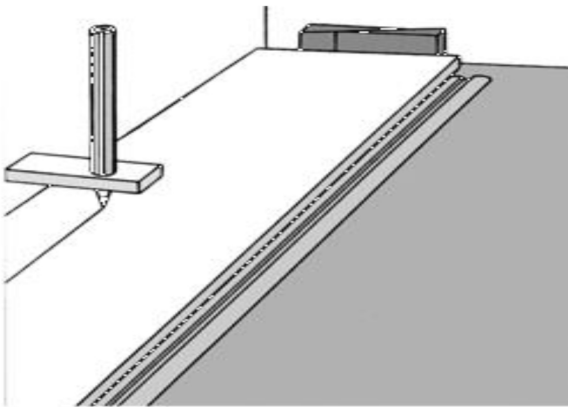

Fig.1
1) The laminate flooring should be installed parallel with the longest wall, since walls are often not straight and rooms are not square, use care in putting down the first row of flooring, use a chalk-line as a guide to ensure the first row is straight and scribe the first row to the wall if necessary. Use blocks or wedges to align the first row to the chalk line. It is very important that the first row is straight, do not fasten the first row to the floor (Fig.1).